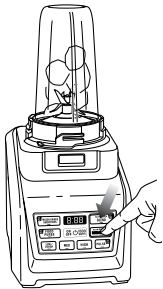

Fig. 4
- 7** Press the power button on, and select the speed or Auto-iQ program that suits your needs. **(Fig. 4)** The Auto-iQ program will stop the appliance automatically at the end of the program.